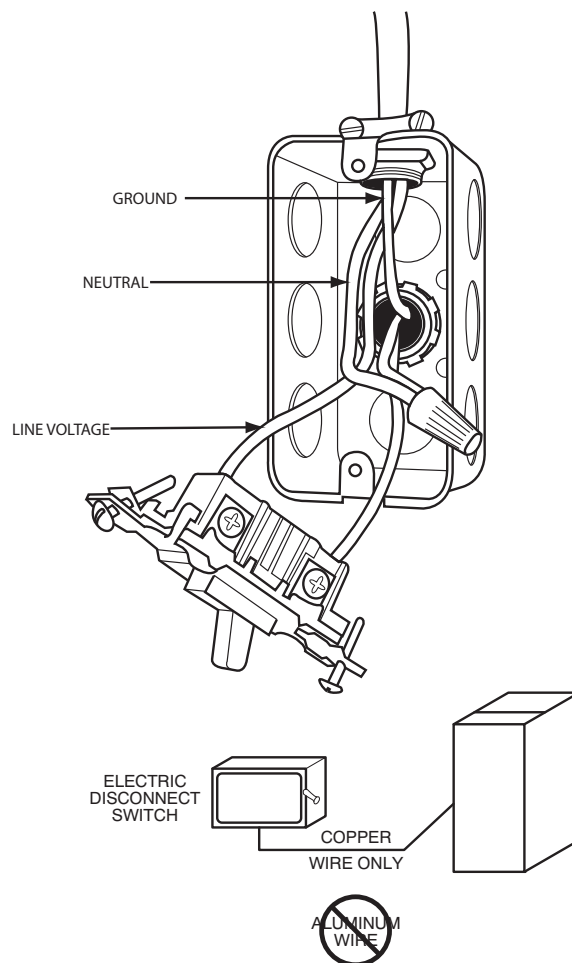

Fig. 34 - Field-Supplied Electrical Box on Furnace Casing
Do not connect aluminum wire between disconnect switch and furnace. Use only copper wire. See Fig. 34.
1. Fasten a field-supplied external electrical box to the outside of the casing by driving two field-supplied screws from inside electrical box into casing. (See Fig. 34.)
9. Complete external disconnect wiring and installation. Connect line voltage leads as shown in Fig. 34. Use best practices (NEC in U.S.A. for wire bushings, strain relief, etc., CANADA: Canadian Electrical Code CSA C22.1)